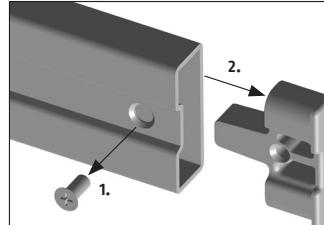

Fig. 24
Please check that the **PR2600** fits onto the door panel for one-turn locked door bars before carrying out the fitting steps described below. Perhaps use **PWA2700** in the narrow niche area (fig. 24 - 26).
4. The door bar can also be incorporated into the wall instead of fitting the lock case. In this case, the cover for the hole in the wall **PWA2700** (Fig. 24 - 26) can be used.
- When using the **PWA2700**, first loosen the screws on the rear of the door bar and remove the door bar end piece (Fig. 24).